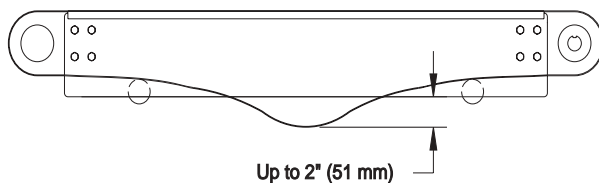

Figure 31
7. Check belt sag by measuring from the bottom of conveyor frame (**Figure 31**). Belt sag should not exceed 2" (51 mm).